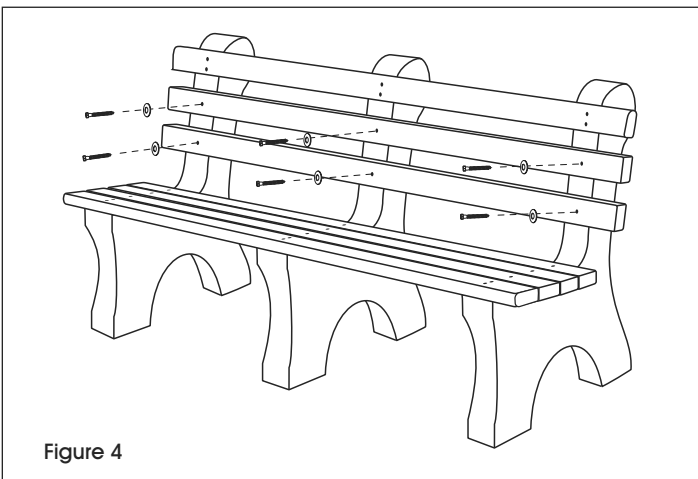

Figure 4
6. Align the remaining two single hole bench slats on the pre-drilled holes of the bench base backrest. Loosely attach the single hole bench slats with the 3 1/2" lag screws and washers using the power drill and 7/16" socket bit (will tighten later in step 7). (See Figure 4)